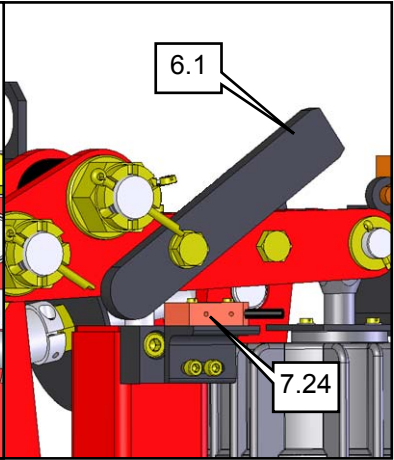

Fig. 14:
- Disconnect thruster (5).
- Attach thruster (5) with e.g. a rope to a suitable lifting device.
- Exchange thruster (5).
- Fig. 14: